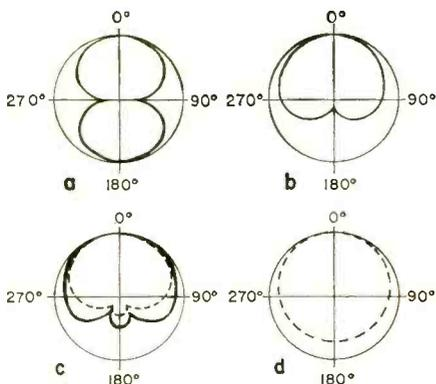

Fig. 1-a—Bidirectional pattern. b—Unidirectional pattern. c—Cardioid and supercardioid (dotted line). d—Omnidirectional pattern at 5,000 Hz.
- **Bidirectional**—sensitive on two opposite sides, and almost totally insensitive or "dead" everywhere else (Fig. 1-a). This characteristic is associated with ribbon microphones. While it's handy for excluding noises and reverberation, ribbon microphones are becoming rare.
- **Unidirectional**—more sensitive on one side than on the other side (Fig. 1-b). Some dynamic microphones are unidirectional. They have less sensitive sides, but there will still be some pickup, especially with low frequencies, from the so-called dead side.
- **Cardioid**—a heart-shaped pattern, with sharpened sensitivity to pick up sounds over a wide angle on one side, while discriminating against sounds from the other side (Fig. 1-c). This is a specific unidirectional type.
- **Supercardioid**—similar to a cardioid, but with a narrower beam of sensitivity (Fig. 1-c). Supercardioid mikes allow us to listen in one sensitive direction, while picking up a minimum of surrounding sound.
• Omnidirectional—equal sensitivity to sounds on all sides, back or front, left or right, above or below (Fig. 1-d). No microphone fully satisfies this requirement at all frequencies. Nevertheless, some are called omnidirectional because they are more nearly omnidirectional than unidirectional.